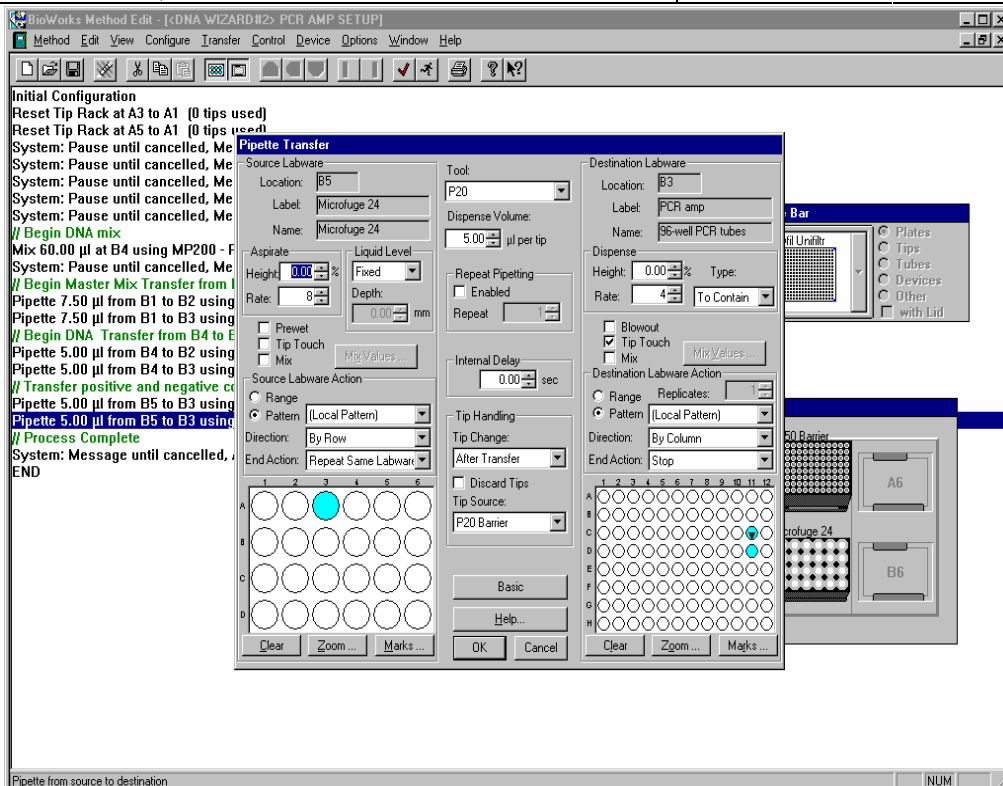

Figure 22. Transferring the negative control.
- 5.6.6 Double click on the line below the line described above in order to define the transfer of the negative controls (Figure 22), “Pipette 5 uL from B5 to B3 using MP20-P20 Barrier”. This step will only need to be customized for the Destination Labware to accommodate the number of tubes to amplify negative control. Highlight those tubes into which the negative control will be pipetted. Click OK when finished.